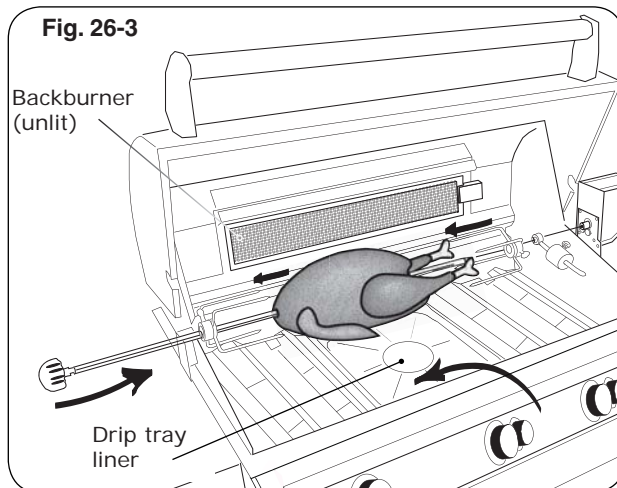

Fig. 26-3
4. Slide the left meat holder onto the rod (and tighten), the meat onto the rod and into the holder, followed by the right meat holder onto the rod and into the meat as shown in Fig. 26-3. Tighten the right meat holder. Be sure the meat is centered and balanced as well as possible.
11. To keep drippings off the burners and simplify cleanup, place Fire Magic® drip tray liners under the meat, if desired (Fig. 26-3).